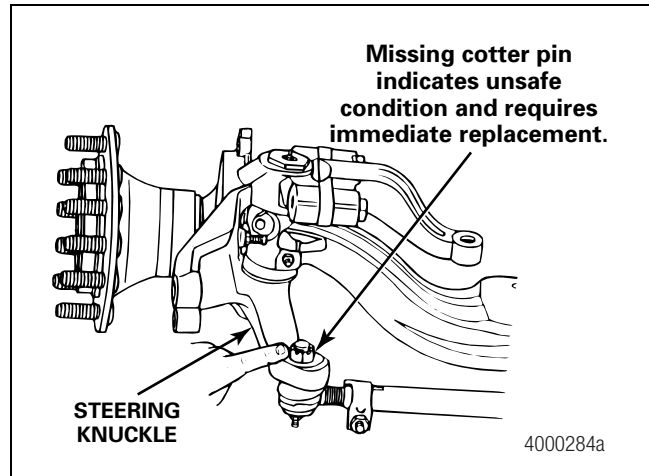

Figure 3.18
- **If the cotter pin is missing:** Tighten the tie rod end nut to the correct specification. Install a new cotter pin. Always tighten the tie rod nut to the specified torque when setting the cotter pin. Refer to Section 10. Do not back-off the nut to insert the cotter pin. Figure 3.18.